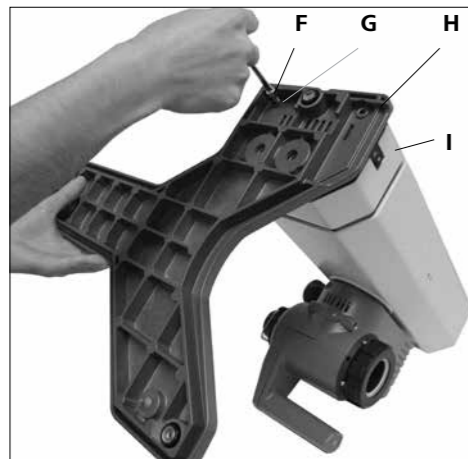

Fig. 7
#### 1.) Mount the base to the lift. (Fig. 7)
- Apply Cylindrical M6x25 (F) (4x) and Serrated washer M6 (G) (4x) to mount base (H) with Lift Unit (I) after you unpack the package. (Fig. 7)